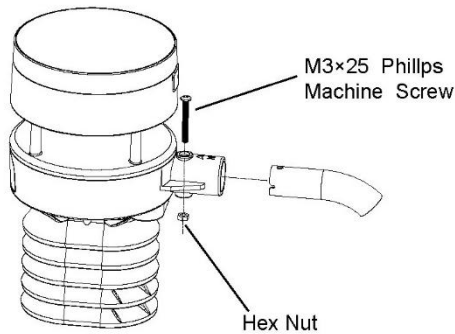

Figure 10: Sensor package mounting diagram 5-3
3. Attaching the arm tube to the Ultrasonic Sensor as Figure 10.